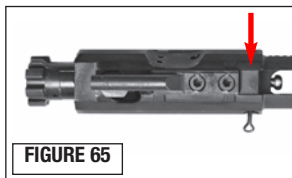

FIGURE 65
- Once the bolt carrier is clear of the firearm, move the bolt forward in the carrier to the unlocked position (FIGURE 64) and remove the firing pin retaining pin (FIGURE 65). Do not alter the split end of the firing pin retaining pin (FIGURE 67).